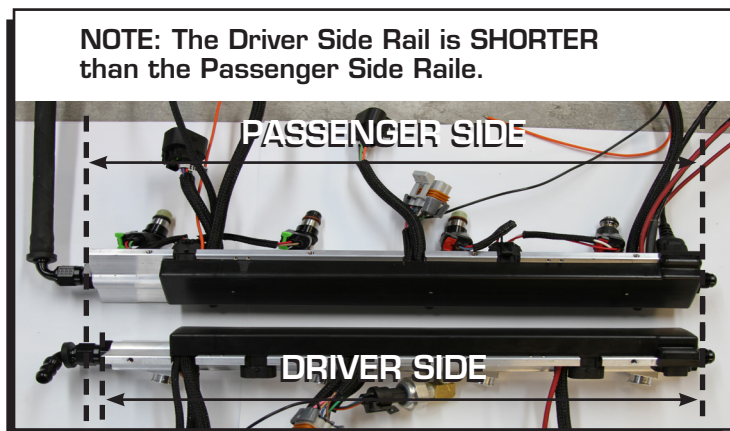

Figure 5 Fuel Rail Length.
3. One of the fuel rails is shorter than the other. The shorter rail is installed on the driver side of the engine (Figure 5).